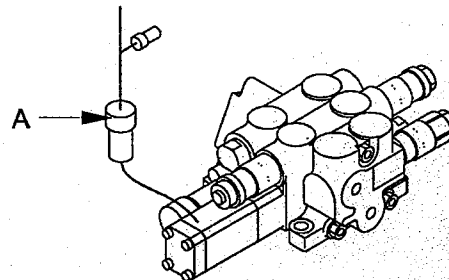

Fig85-11:
4. Fig85-11: Remove the wiring (A) of the automatic leveler.